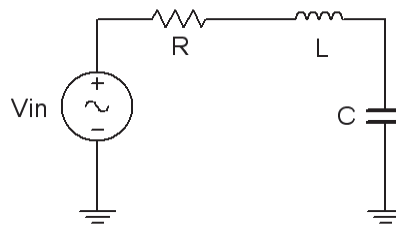

Figure 6.3
22. Using Figure 6.3 with both the 10 nF capacitor and 10 mH inductor, repeat steps 1 through 6 in similar manner, using Tables 6.5 and 6.6. **Using a four channel oscilloscope:** To obtain proper readings, place the first probe at the input, the second probe between the resistor and inductor, and the third probe between the inductor and capacitor. Probe three yields V_C . Using the *Math* function, probe two minus probe three yields V_L , and finally, probe one minus probe two yields V_R . Assigning *Reference* waveforms can be useful to see all of the signals together. **Using a two channel oscilloscope:** Unfortunately, it will be impossible to see the voltage of all three components simultaneously with the source voltage using a two channel oscilloscope. To obtain proper readings, place the first probe at the input and the second probe across the capacitor in order to see the phase and magnitude of V_C . Then, swap C and L (placing the second probe across the inductor) to see V_L , and finally, swap L and R (with the second probe across R) in order see V_R .